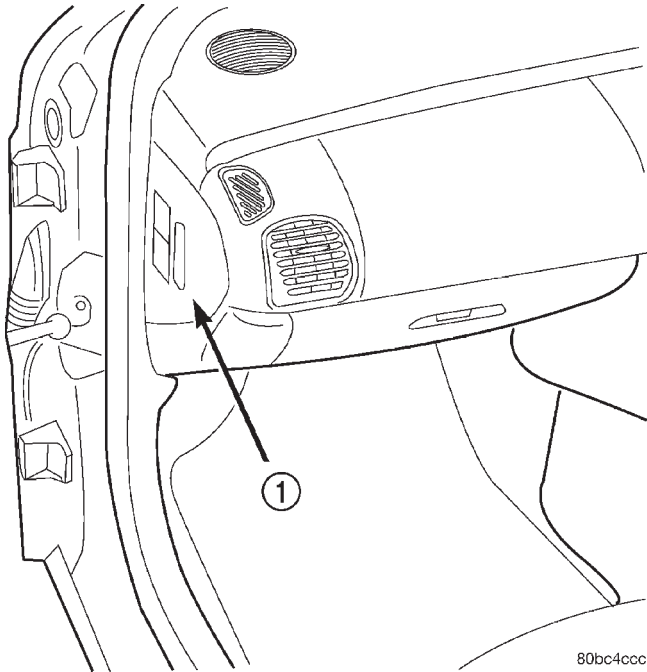

Fig. 8 Left Instrument Panel End Cap
- (3) Remove the right and left side instrument panel end caps (Fig. 8). Using the finger grip feature, pull straight away from the instrument panel to disengage the (3) retaining clips.
- (4) Remove the right and left side A - pillar trims.